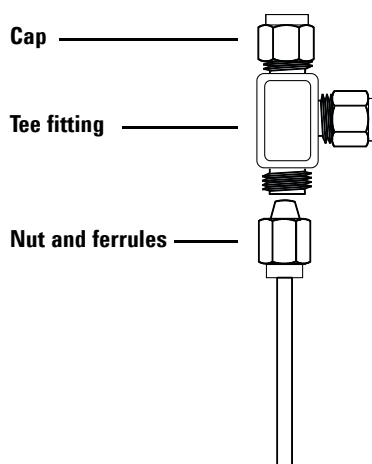

Figure 25 Swagelok tee
- 1 Cut the tubing where you want to install the Tee. Connect the tubing and Tee with a Swagelok fitting. See Figure 25.